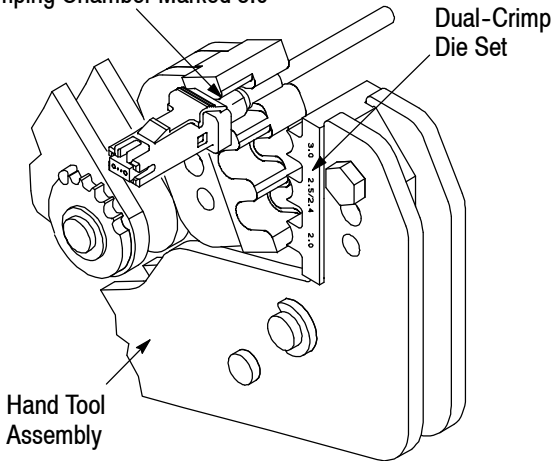

Figure 29
4. Position the crimp eyelet over the aramid strength members. Crimp the crimp eyelet using the hand tool assembly and dual-crimp die set. See Figure 29.